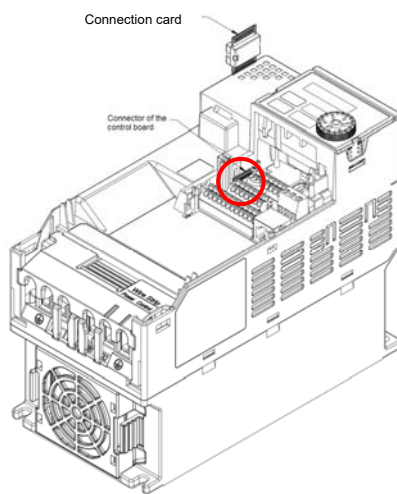

Figure 8-2
2. Mounting the connector: as shown in the Figure 8-2, aim the adapter/ option card at the connector on the control board and then insert it to the connector.